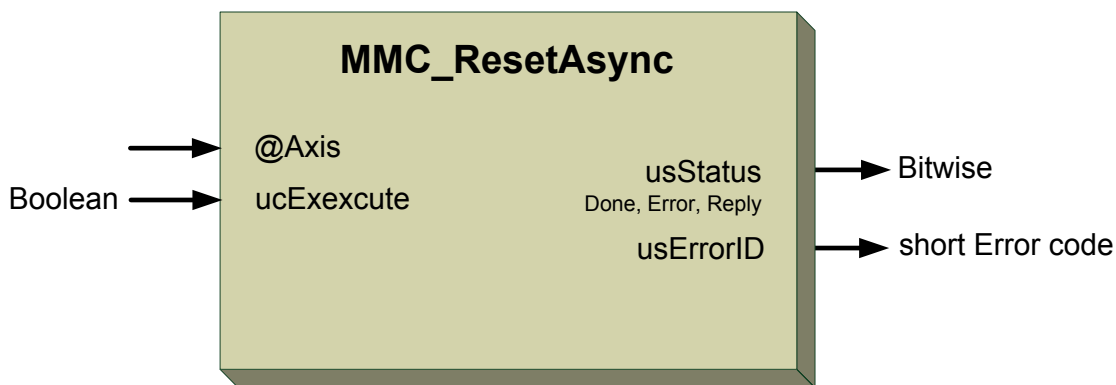

Figure 5-72: MMC\_ResetAsync function block
**Figure 5-72** describes the function block for MMC\_ResetAsync as applied within the IEC 61131 programming.